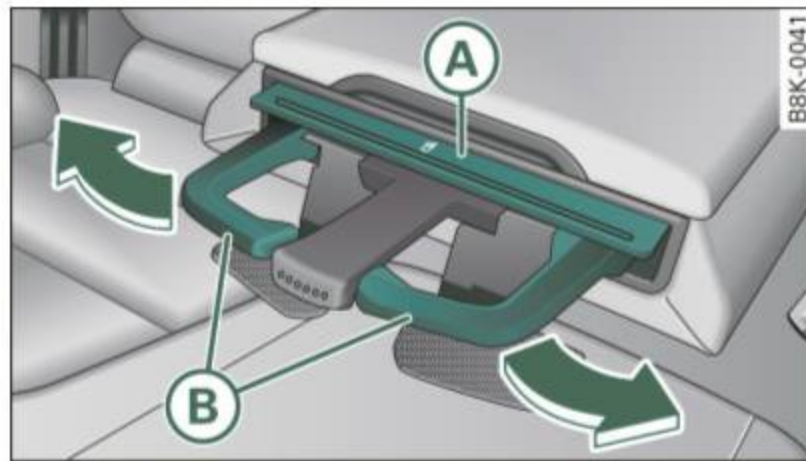

Fig. 98 Beverage storage in the rear armrest
- Press on the symbol  (A) ⇒ fig. 98.